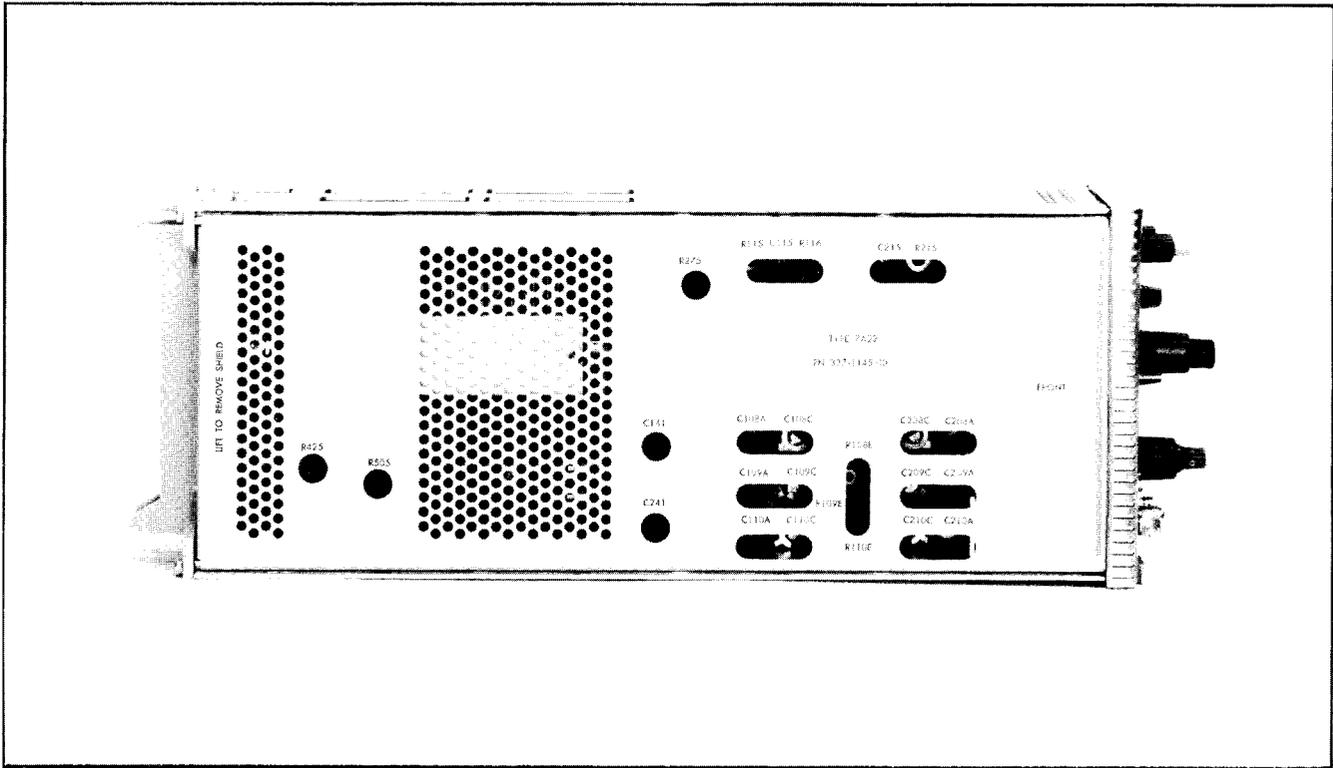

Fig. 5-1. Left side of the 7A22 showing adjustment locations.
1. Check or Adjust AC Step Atten Bal ①
- d. ADJUST—AC Step Atten Bal control, R505, (see Fig. 5-1) to position the trace within 1.5 div of graticule center.
2. Check or Adjust Variable Bal ①
- e. ADJUST—Variable Bal control, R425, (see Fig. 5-1) for no trace shift while rotating the VARIABLE control.
3. Check or Adjust Coarse DC Bal ①
- d. ADJUST—Coarse DC Bal, R275, (see Fig. 5-1) to position the trace to graticule center.
4. Check or Adjust + Gate Current Zero ①
- e. ADJUST—The +Gate Current Zero control, R1 15, (see Fig. 5-1), to position the trace to graticule center.
5. Check or Adjust - Gate Current Zero ①
- e. ADJUST—The -Gate Current Zero control, R215, (see Fig. 5-1), to return the trace to graticule center.